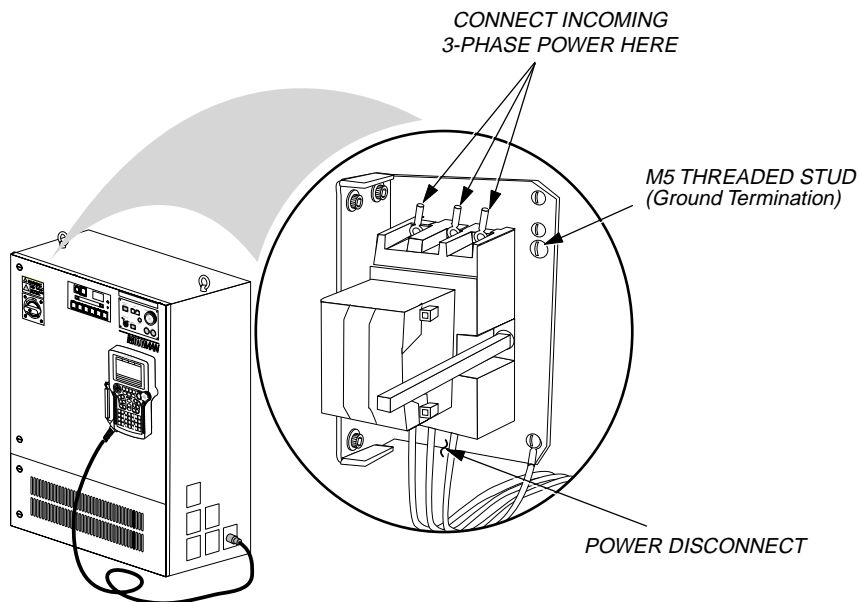

Figure 4-9 Incoming Power Connections
1. Install 3-phase power wiring to circuit breaker located inside left wall of each controller cabinet (see Figure 4-9).